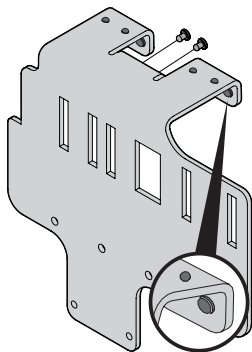

Figure 3
- Install 12 rubber pads (735-05938) into adapter bracket (789-02278) using the mounting holes shown in Figure 3.